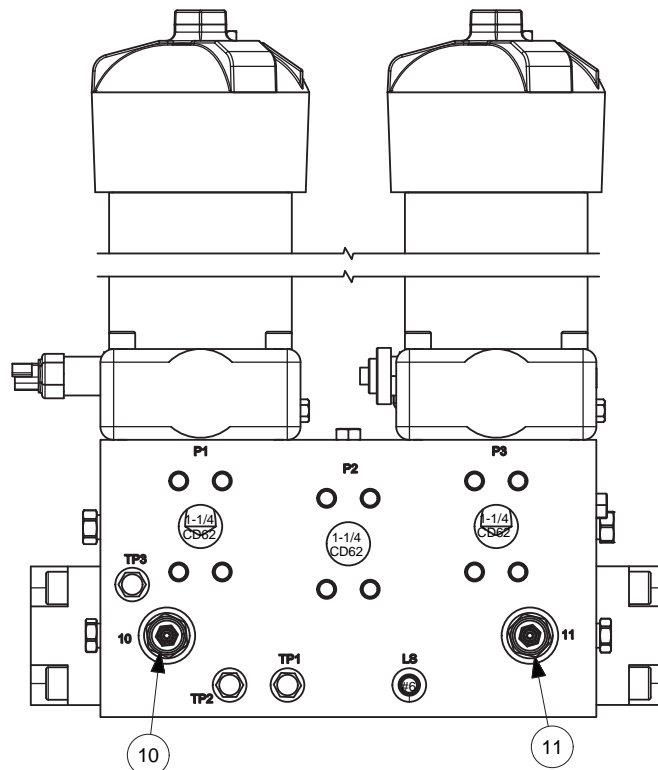

Figure 2-F. Relief Valve location
Repeat procedure if necessary in REV. The REV valve is shown as item 10 in FIG (see figure 2-F.)